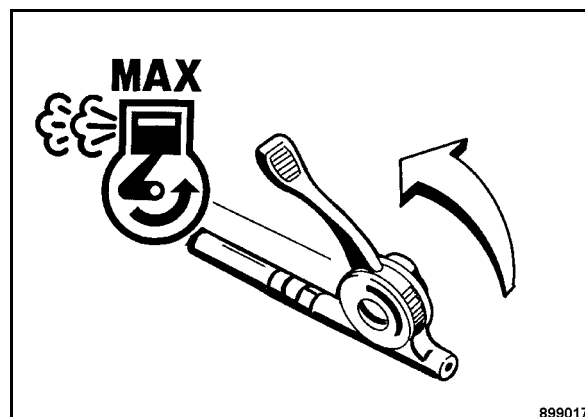

Fig. 35
- Shift the throttle lever (Fig. 35) to position "MAX".